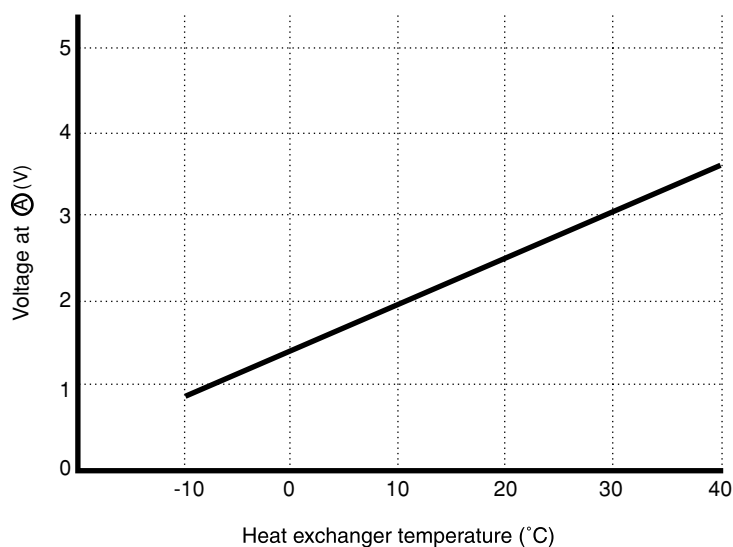

Fig. 5-2
- The voltage at ① depends on the room temperature as shown in Fig. 5-2.
- (1) Low-temperature defrosting during cooling and dehumidifying operation.
The voltage at (A) depends on the heat exchanger temperature as shown in Fig. 5-2.